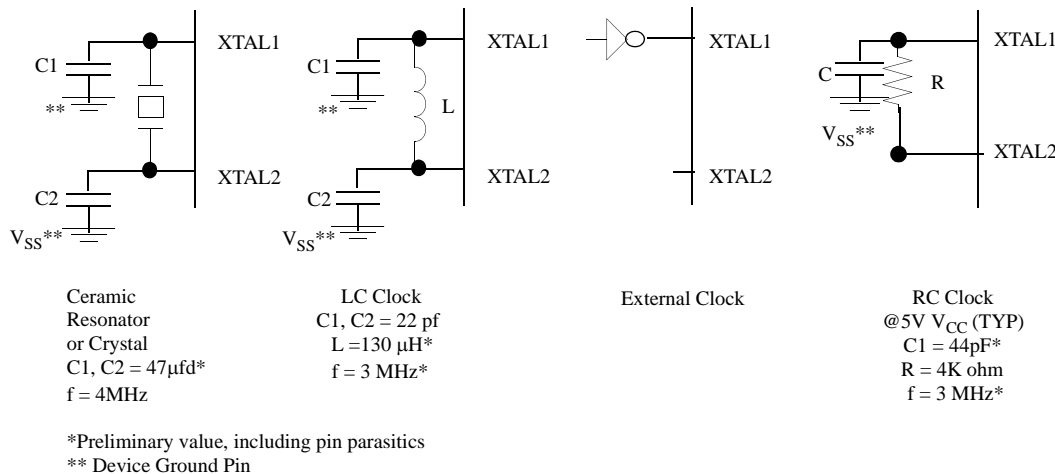

Figure 12. Oscillator Configuration
- **Notes:** The RC option is available up to 4MHz. The RC oscillator configuration must be an external resistor connected from X_{IN} to X_{OUT} , with a frequency-setting capacitor from X_{IN} to Ground (Figure 12).